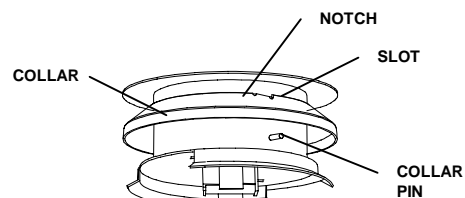

FIG. 5
4. Secure REFLECTOR/REFRACTOR in position by aligning SLOT in COLLAR over PINS and slide COLLAR down NECK. Twist COLLAR counter-clockwise allowing PINS to rest in NOTCHES (Fig. 5).